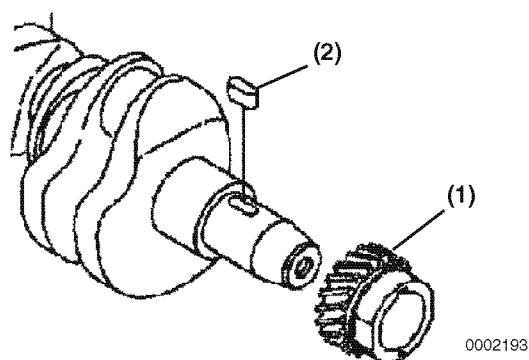

Figure 6-59
12. If necessary, remove the crankshaft gear (**Figure 6-59, (1)**) and key (**Figure 6-59, (2)**). If using a gear puller, be careful not to damage the threads in the end of the crankshaft.